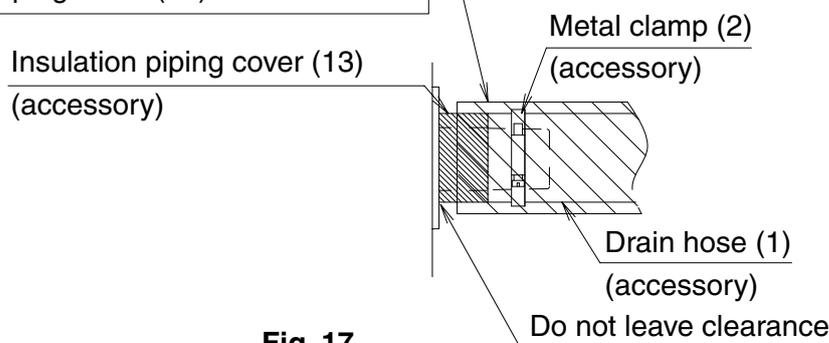
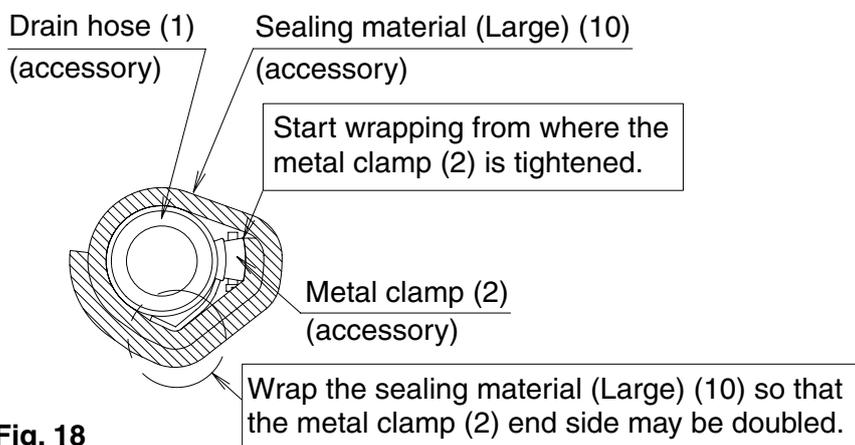

Fig. 17
Fig. 18
(3) Sweating may occur and result in water leakage. Therefore, make sure to insulate the following 2 places (drain piping and drain sockets that laid indoors).
After drainage is checked, put the attached insulation piping cover (13) referring to **Fig. 17**, and insulate the drain hose (1) and the metal clamp (2) with the attached sealing material (Large) (10) referring to **Fig. 18**.